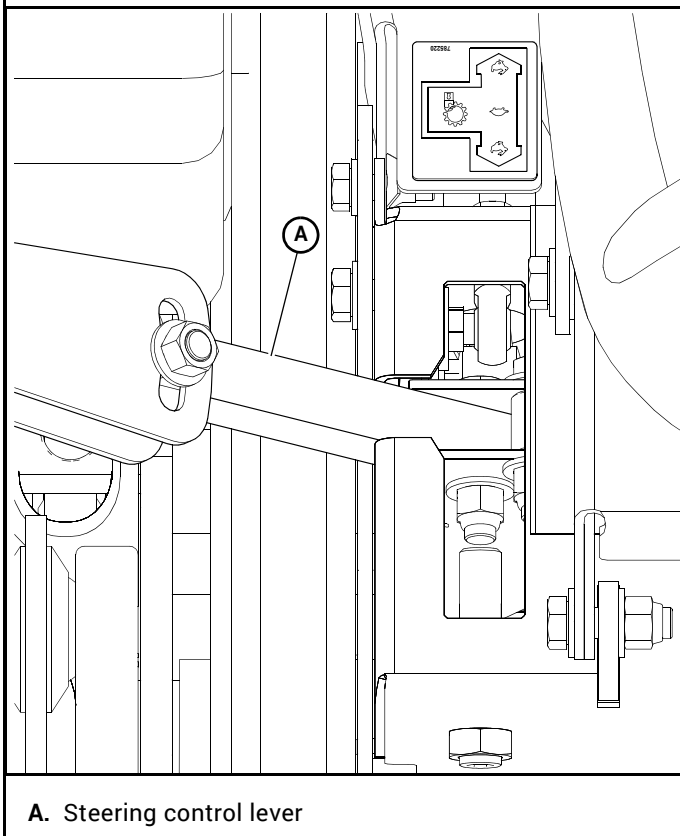

Figure 3-6
- A. **Steering control levers (Figure 3-5 & Figure 3-6)** – these levers control the mower's speed, direction, stopping, and park brake.